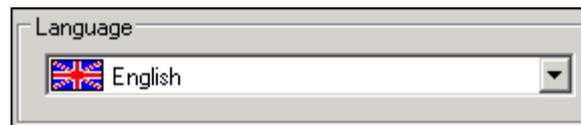

Fig. 72 Language dropdown list on the System tab
2. Select a language from the **Language** dropdown list (see "Fig. 72", page 86).